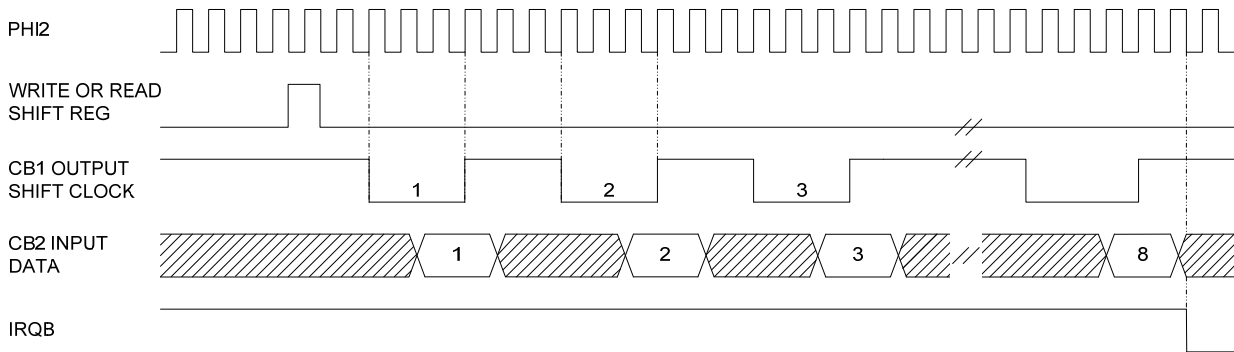

Figure 2-6 Shift In - Counter T2 Control
The Shift Register (SR) performs bidirectional serial data transfers on line CB2. These transfers are controlled by an internal modulo-8 counter. Shift pulses can be applied to the CB1 line from an external source, or (with proper mode selection) shift pulses may be generated internally which will appear on the CB1 line for controlling external devices. Each SR operating mode is controlled by control bits within the ACR. See Table 2-10 for control bit information. See also Figures 2-6 through 2-12.
In this mode, the shifting rate is controlled by the low order eight bits of counter T2. Shift pulses are generated on the CB1 line to control shifting in external devices. The time between transitions of the CB1 output clock is determined by the PHI2 clock period and the contents of the low order T2 latch (N). Shifting occurs by writing or reading the SR. Data is shifted into the low order bit first, and is then shifted into the next higher order bit on the negative going edge of each clock pulse. Input data should change before the positive going edge of the CB1 clock pulse. This data is then shifted into the SR during the PHI2 clock cycle following the positive going edge of the CB1 clock pulse. After eight CB1 clock pulses, IFR2 will set and IRQB will go to a Logic 0. See Figure 2-6.